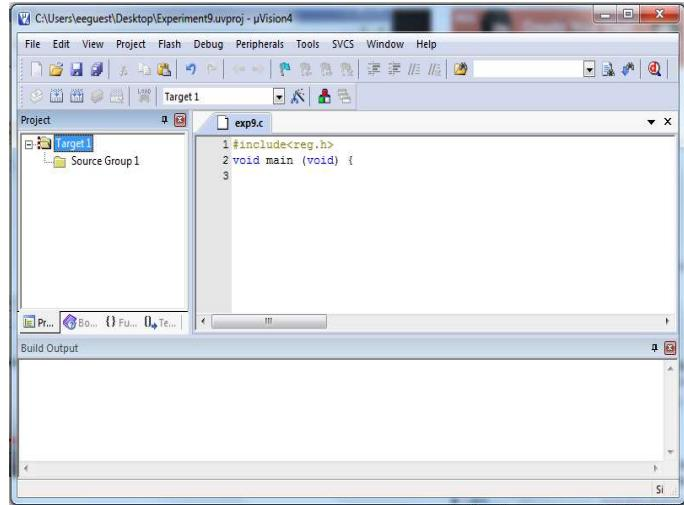

Figure 9.11: Maximizing Target1 tab.
- 12) Maximize Target 1 as shown in Figure 9.11. Here, you will find Source Group 1 tab.